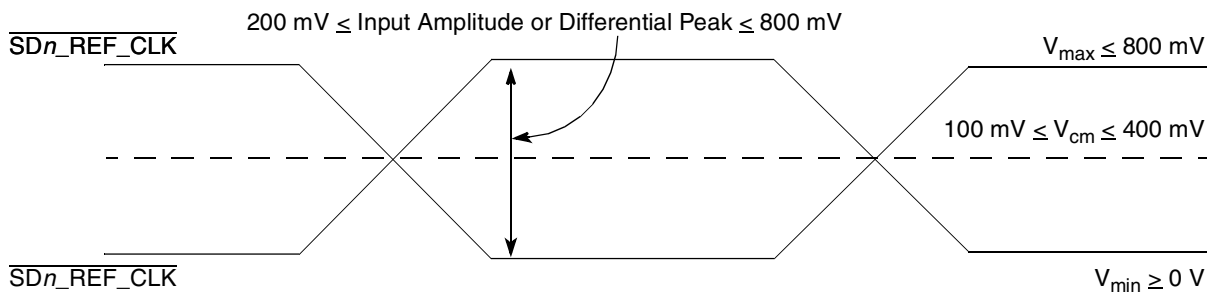

Figure 31. Differential Reference Clock Input DC Requirements (External DC-Coupled)
- For external DC-coupled connection, as described in Section 2.17.2.1, “SerDes Reference Clock Receiver Characteristics,” the maximum average current requirements sets the requirement for average voltage (common mode voltage) to be between 100 and 400 mV. Figure 31 shows the SerDes reference clock input requirement for DC-coupled connection scheme.